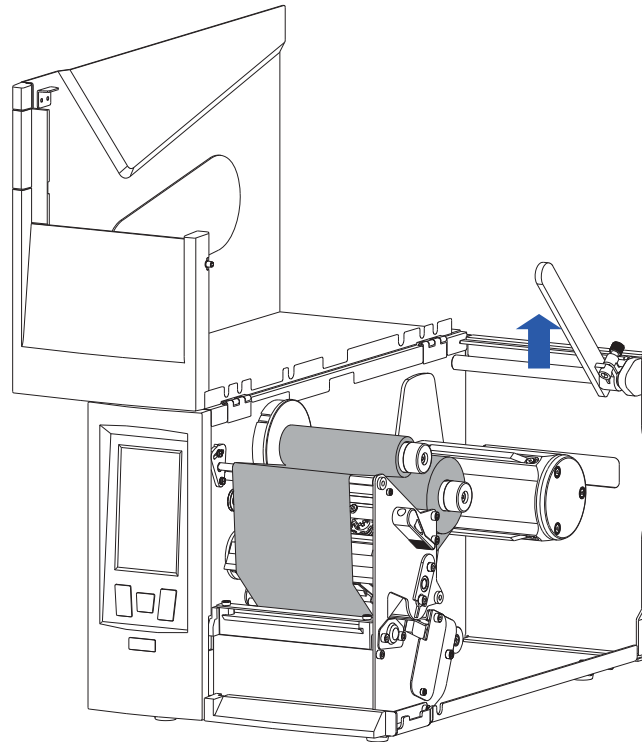

Figure 2-16 Lift the Media Roll Guide
1. Loosen the Thumbscrew, then slide the Media Roll Guide to the far right end and lift it up. As shown in Figure 2-16.